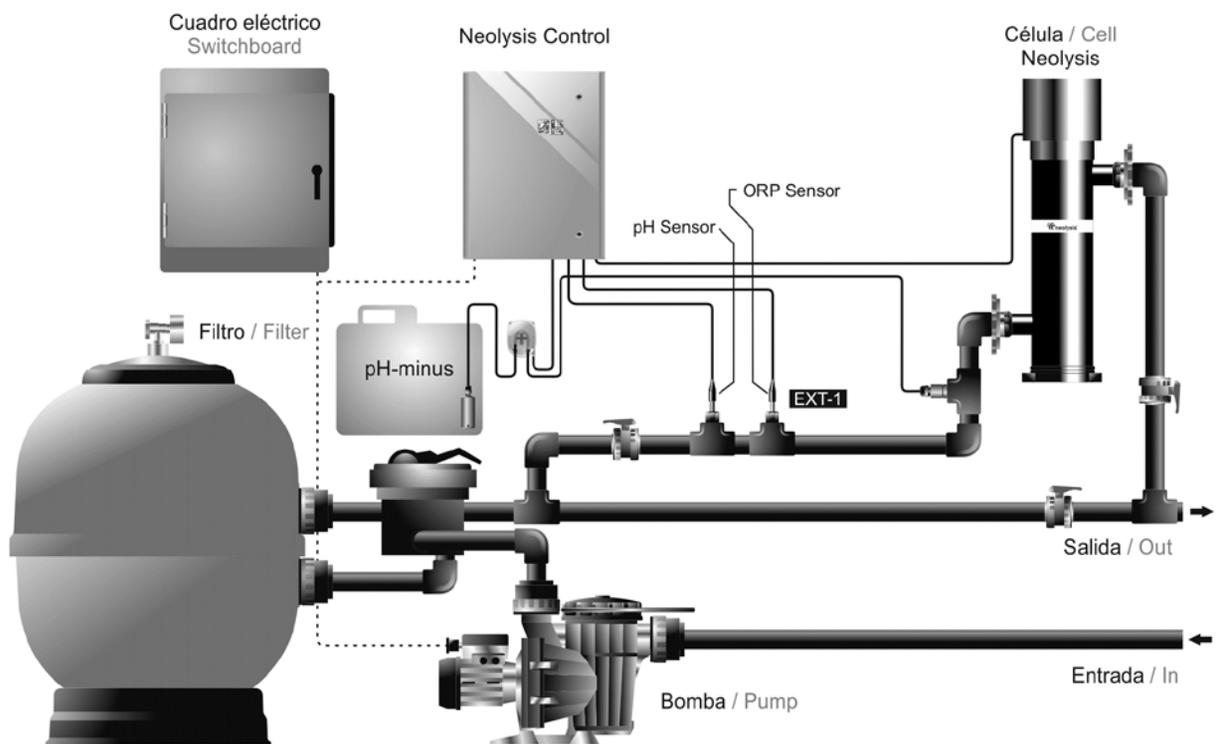
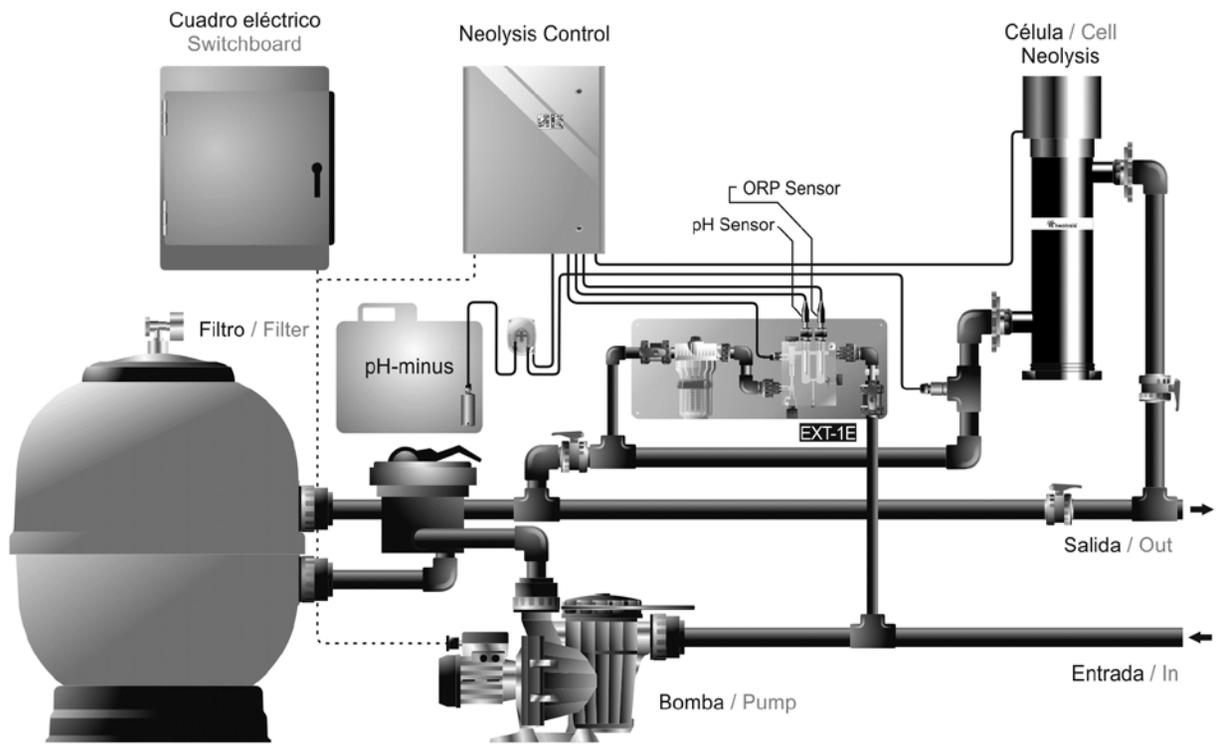

Fig.2 Neolysis + EXT-1
Fig.3.1 Neolysis + EXT-1E
4.4.1 pH EXT-1 & ORP EXT-1 (Ver fig.2)
4.4.2. pH EXT-1E, EXT-2 (fig 3.1, 3.2) & ORP EXT-1E (Ver fig.2)